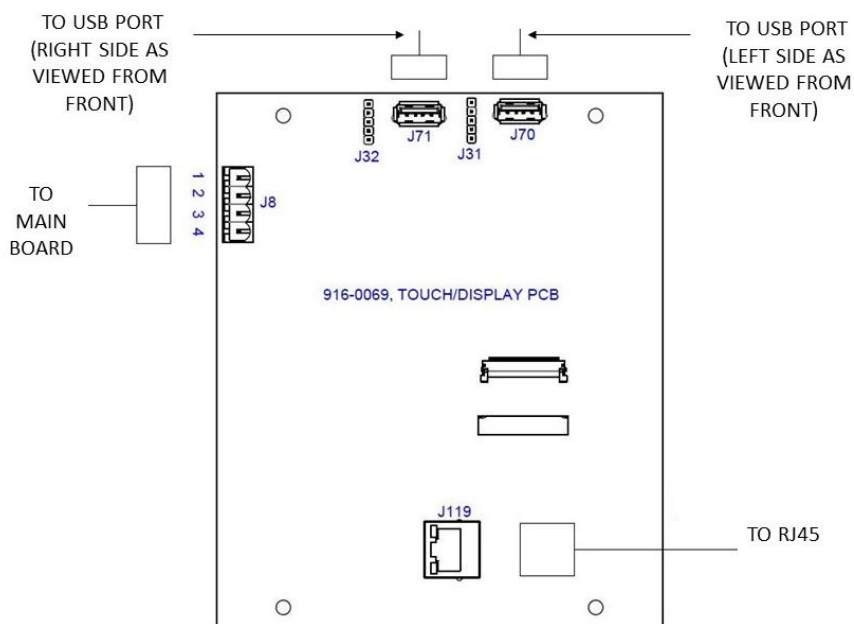

Figure 3.2. Display Board Connections
- Disconnect all cables from Board. (Figure 3.2)
- Reconnect all cables. (Figure 3.2)